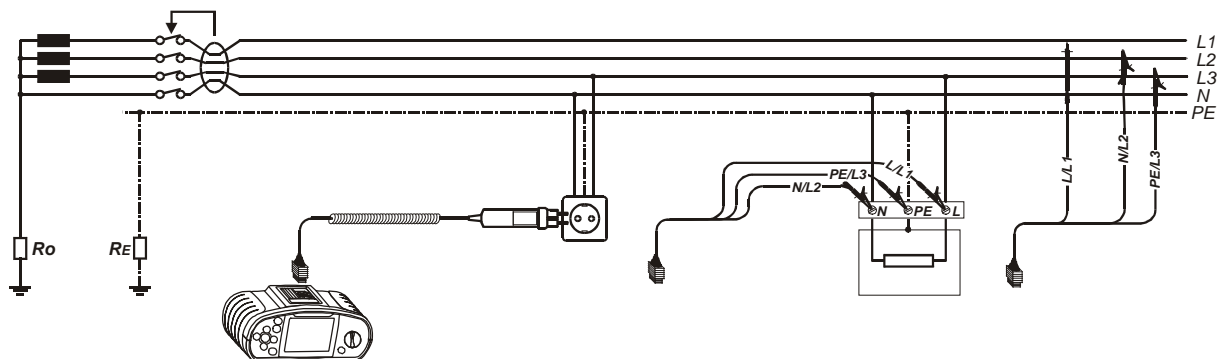

Figure 5.40: Connection diagram
Step 3 Follow the connection diagram shown in figure 5.40 to perform phase-neutral or phase-phase line impedance measurement. Use the **Help** function if necessary.